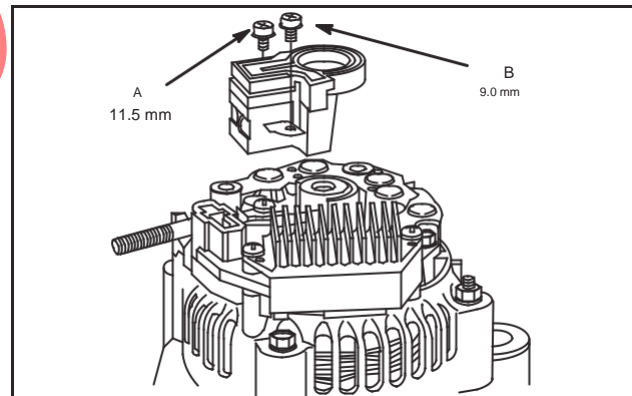

Fig. 24 – Remove Brush Retainer
4. Remove two screws, then brush retainer assembly, Fig. 24.